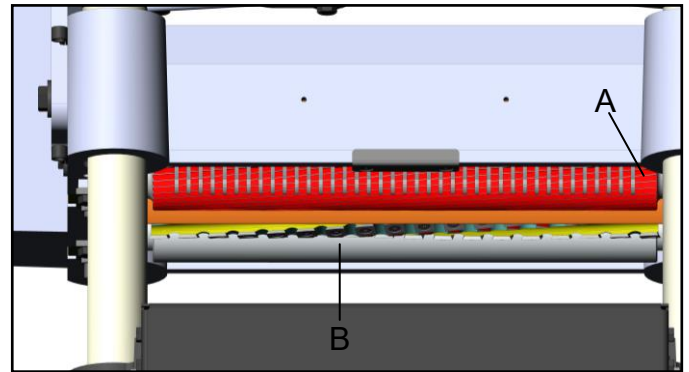

Fig. 16
The infeed roller (A) and outfeed roller (B) are those parts of your planer that feed the stock while it is being planed. The feed rolls (A) and (B) are under spring tension and this tension must be sufficient to feed the stock uniformly through the planer without slipping, but should not be so tight that it causes damage to the board. The tension should be equal at both ends of each roller. (Fig. 16)